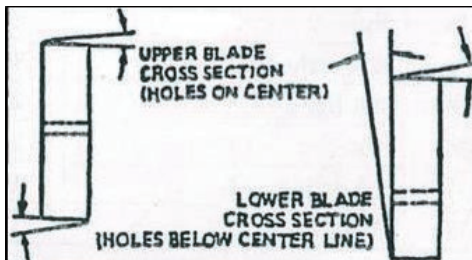

Figure 8
The lower blade (25) has one cutting edge with a 2-edge relief and a 1-face relief. It can be sharpened on a surface grinder by grinding the wide side of the blade having the 1-face relief. (See Figure 8)